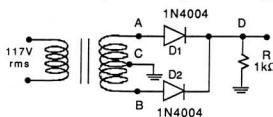

Figure 5.6 A Full-Wave Rectifier with Center-Tapped Transformer
- Assemble the circuit shown in Fig. 5.6, measuring nodes A and B, then nodes A and D, with the oscilloscope line-triggered and "normalized". Measure also the ac and dc voltages at node D using your DVM.